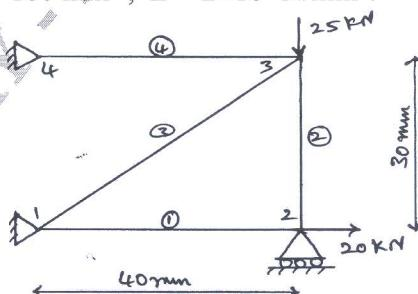

Fig.Q4(b)
b. A 4 bar truss element is shown in Fig.Q4(b). Determine the following: